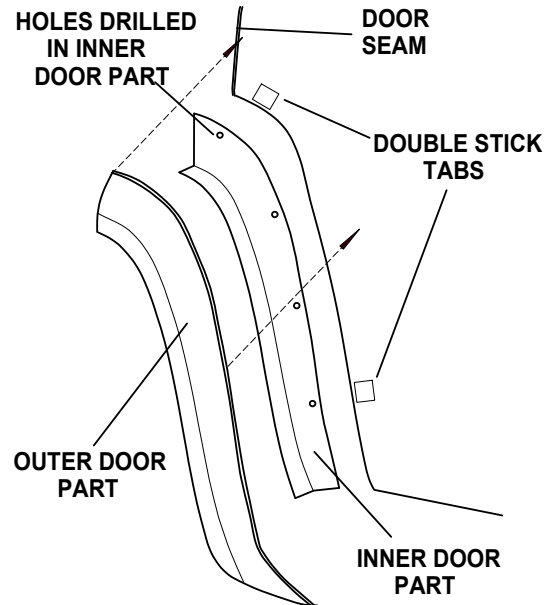

FIGURE 4
- (A) Drill four holes in each inner door part, and three holes in each outer door part with a 3/16" drill bit, using the indents in the parts as a guide. See FIGURE 4.
- (B) Apply two double stick tabs to the door at positions indicated in FIGURE 4. Stick the inner door part onto the door aligning it with the rear main part and the wheel well opening. See FIGURE 4.